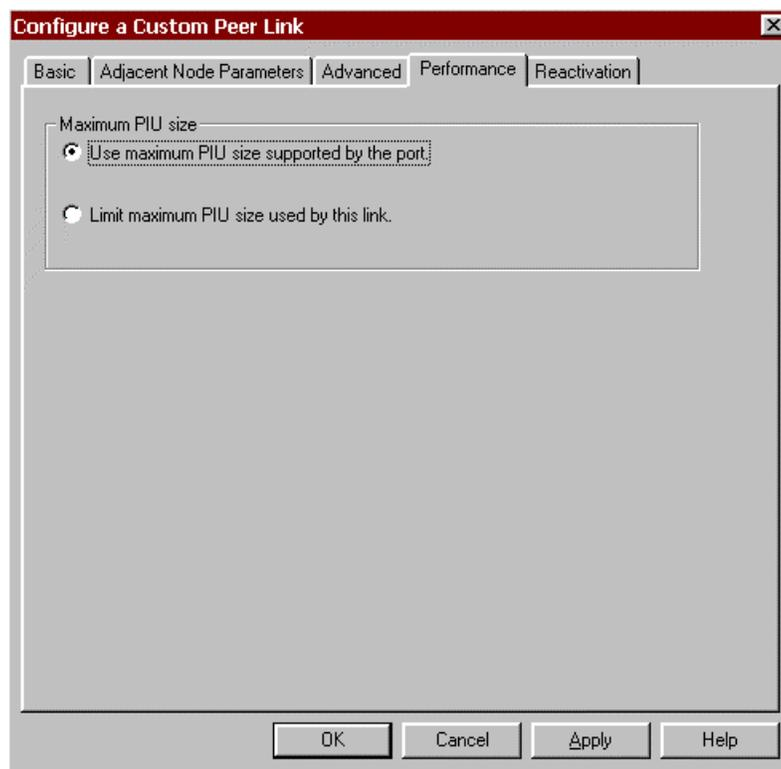

Figure 10-29. Configure a Custom Peer Link - Performance
5. Click the **Performance** tab (Figure 10-29).